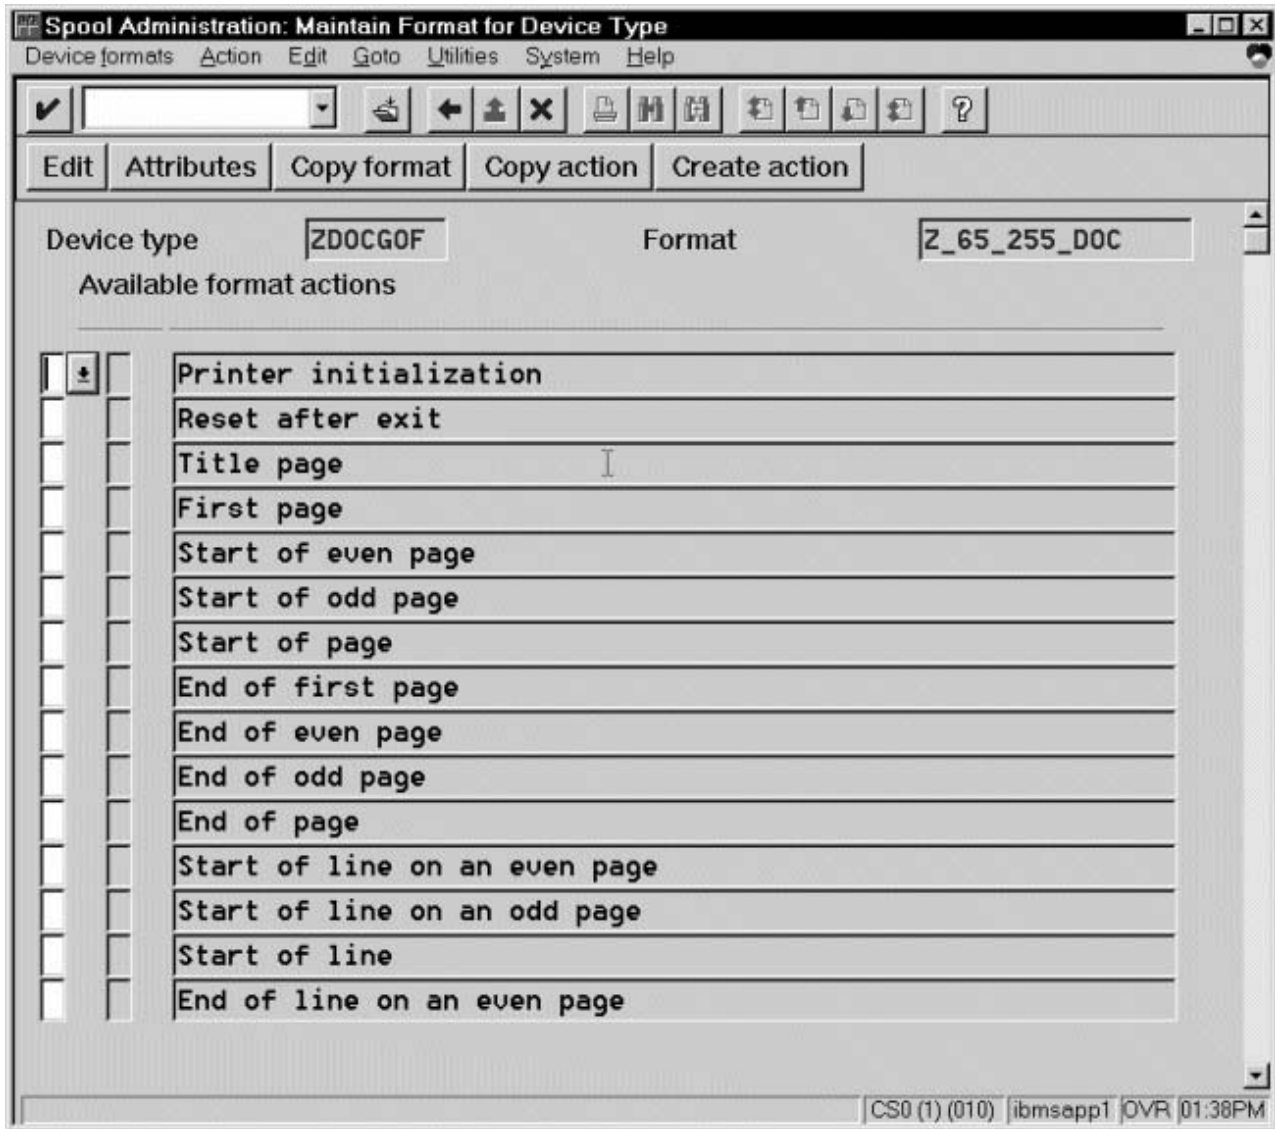

Figure 58. Spool Administration: Maintain Format for Device Type window
5. From the Maintain Format for Device Type window shown in Figure 58 on page 138, the blank left column indicates that the customized format has not yet been initialized: